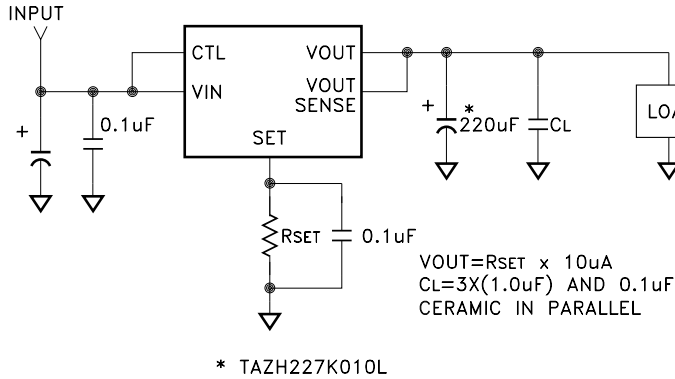

FIGURE 1
- ① Output is decoupled to ground using a 220µF tantalum low ESR capacitor in parallel with 3 pieces of 1.0µF and one 0.1µF ceramic capacitor unless otherwise specified. (See Figure 1)
- ② Guaranteed by design but not tested. Typical parameters are representative of actual device performance but are for reference only.
- ③ Industrial grade devices shall be tested to subgroup 1 unless otherwise specified.
- ④ Class V devices shall be 100% tested to subgroups 1,2 and 3.
- ⑤ Subgroup 1 T_A=T_C=+25°C